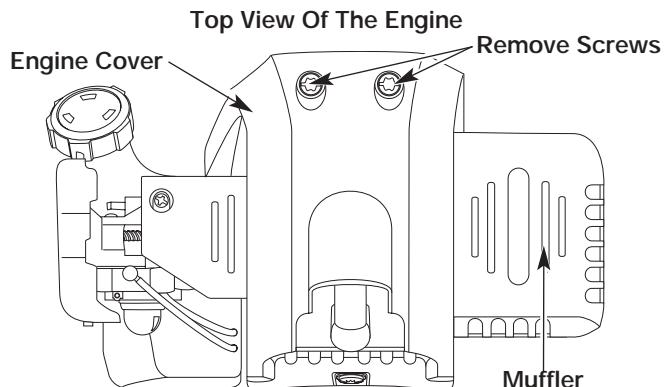

Figure 51
2. Remove the two (2) screws on top of the engine cover with a Flat-head or T-25 Torx screwdriver. See Figure 51.
6. Remove the engine cover. See Figure 51.